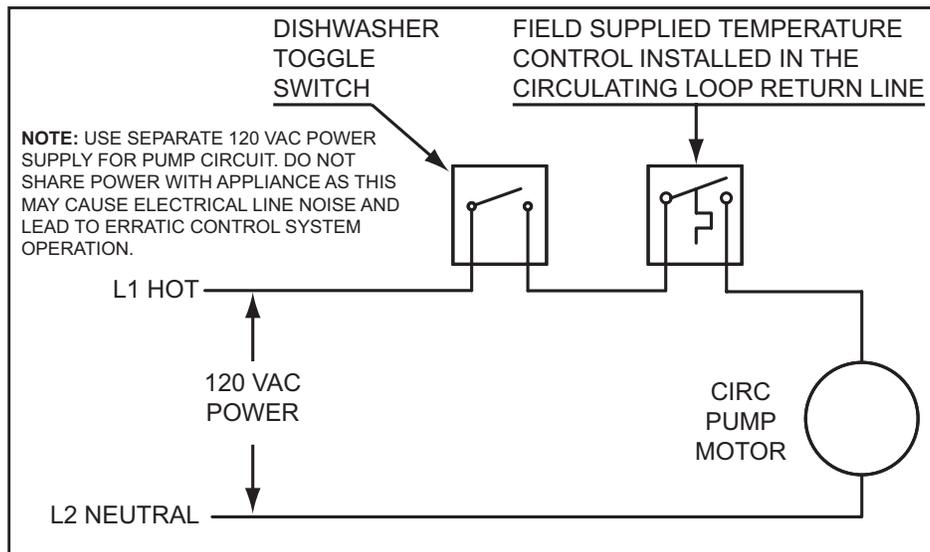

Figure 64. Recirculating Loop with Dish Washer and Toggle Switch
7. If a pump is being installed in a recirculation loop between the water heater and a commercial dishwasher wire according to *Figure 64* (page 72).